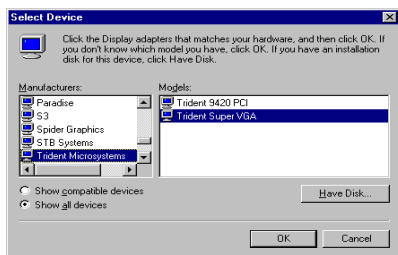

Figure 3-4.
5. On the Select Device” page, SELECT the Have Disk” button to install the Trident display driver from Diskette of the Drivers and Utilities diskette or Disc of CD ROM (refer Figure 3-4)